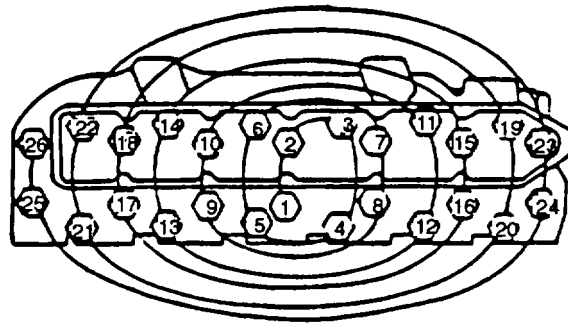

FIGURE 3-124. Cylinder Head Capscrew Tightening Sequence
- c. Install two guide studs in cylinder block (for piloting cylinder head) at locating holes 16 and 17 shown in FIGURE 3-124.
- e. Dip entire capscrew (1) in clean engine lubricating oil (MIL-L-2104). Remove excess oil from screw.
- f. Remove guide studs. Install twenty-six cylinder head capscrews (1).
- g. Tighten capscrews (1) in sequence shown in FIGURE 3-124 to torque specified below, beginning with No. 1 capscrew. Complete each step on all capscrews before proceeding to next step.
- (1) Step 1 - Tighten all capscrews to 75 ft-lbs (100 Nm).
- (2) Step 2 - Tighten all capscrews to 110 ft-lbs (150 Nm).
- (3) Step 3 - Wait 5 minutes and verify 110 ft-lbs (150 Nm).